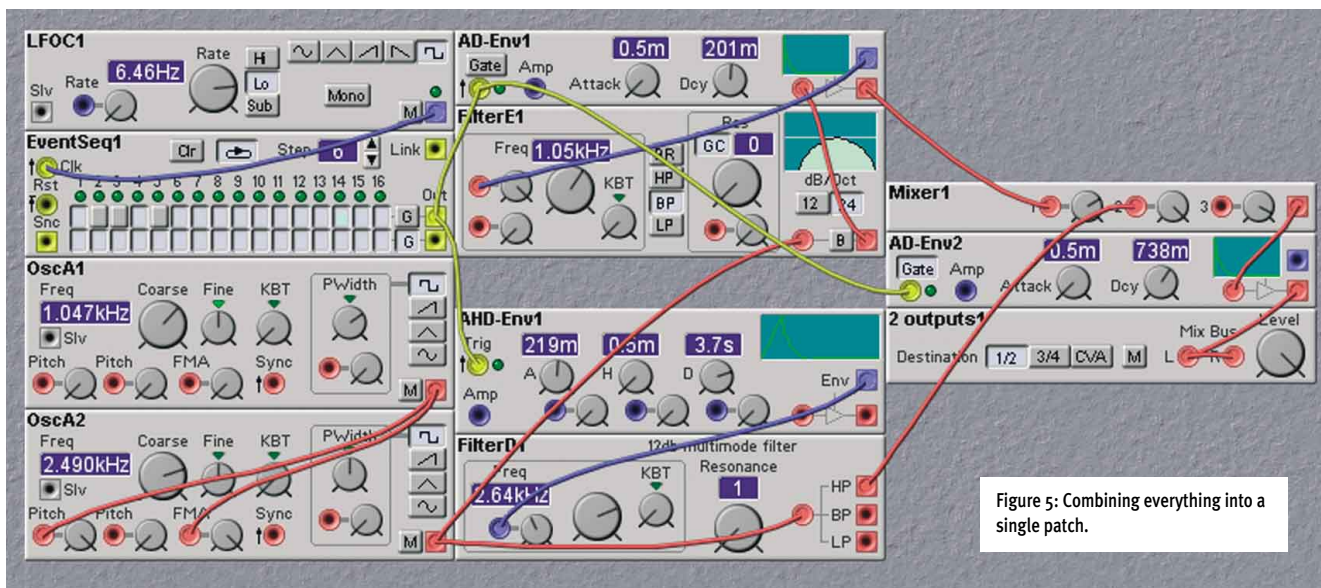
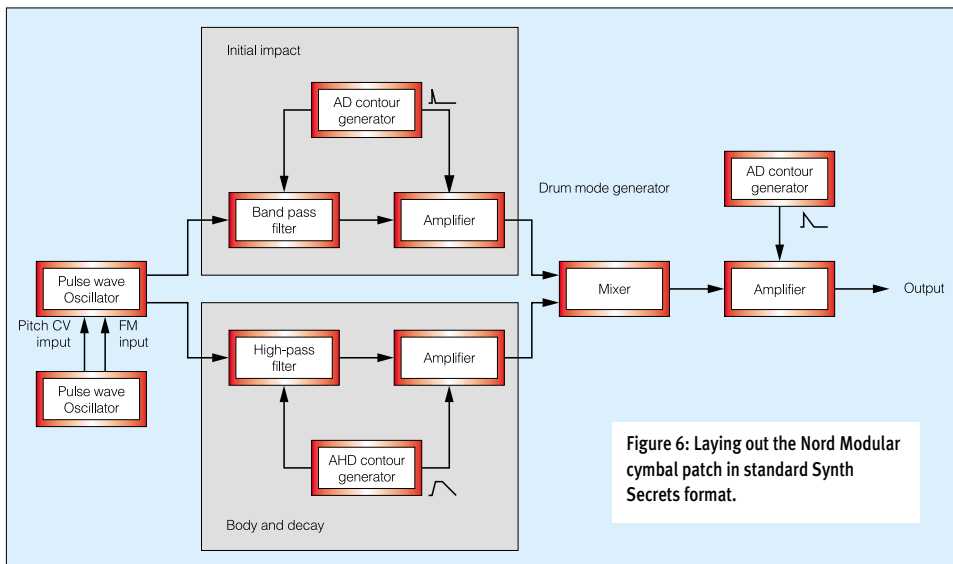

Figure 5: Combining everything into a single patch.
Figure 6: Laying out the Nord Modular cymbal patch in standard Synth Secrets format.
Having created the two signal paths, I have combined them as shown in Figure 5 on the next page, using the 'Mixer1' module to mix the elements in suitable proportions. You will note that I have given the tail a greater amplitude than the 'ping', and again this is simply because it sounds correct.
Figure 6 (below) now shows the sound-generating modules from Figure 5, but drawn in standard Synth Secrets format, so that you can apply this patch yourself to something other than the Nord Modular. You can see the dual signal paths, with the upper path creating the 'ping', and the lower the extended tail of the sound.
But what if you don't own a big modular synth — analogue or digital? Does this mean that cymbal sounds are forever beyond your reach? Next month, we'll look at Figure 6 in closer detail and, as we have done before, see whether we can simplify the patch sufficiently to create convincing cymbal sounds on low-cost analogue synths. Until then... SOS
► sequencer clocked by an LFO. You can see these in the upper-left corner of Figure 5. If you look closely, you can see that I have programmed a six-beat sequence with the cymbal triggered every first, fourth and sixth beat. This produces the classic 'tscchhhh t-t tscchhhh t-t tscchhhh' so beloved of jazz and swing drummers, which is a perfect test for a ride-cymbal patch.